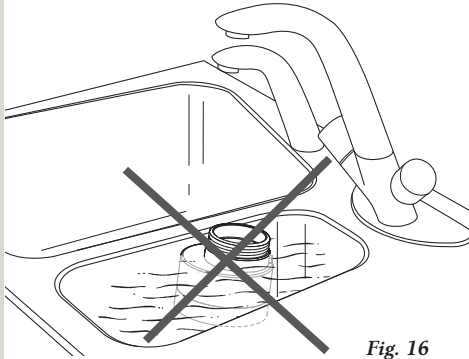

Fig. 16
- Do not immerse the boiler in water. (fig. 16)